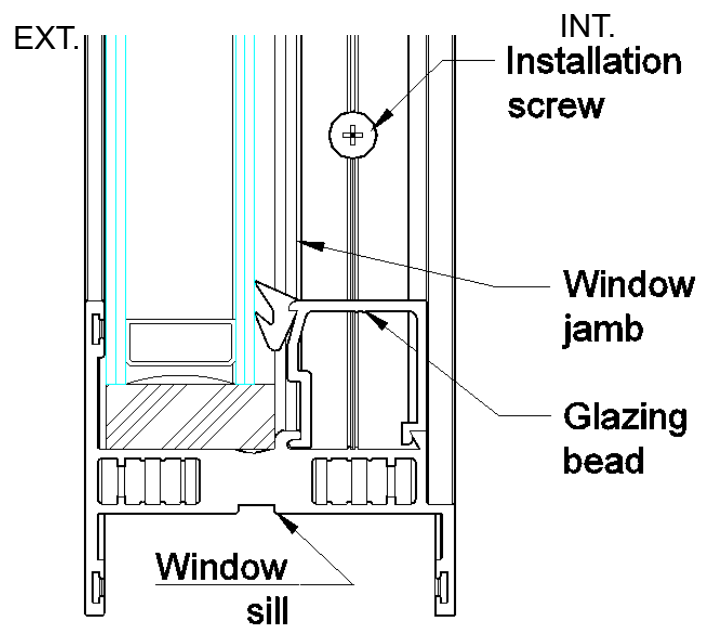

Figure 8: Side View of Jamb at Bottom
2.7 Fasten the jamb at bottom through the installation hole on both sides (refer to figure 8), reinstall the glazing beads on both window jambs. Notice: do not over tighten the fasteners to distort the frame, and do not drill on the window sill/head to avoid water infiltration.